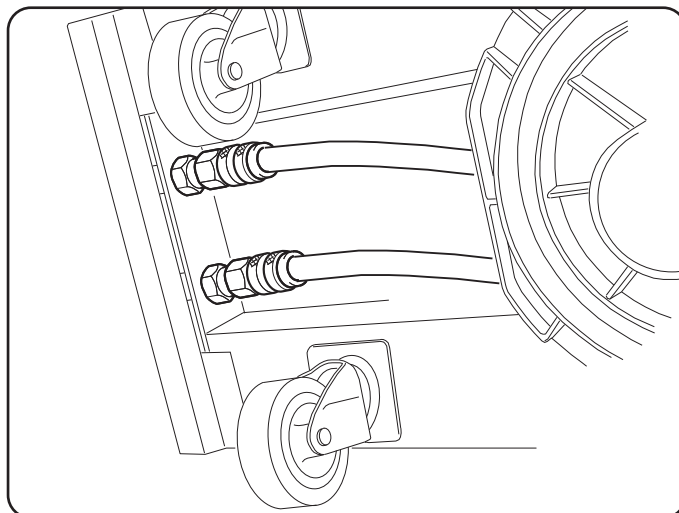

Fig. 6
- ◆ The coolant fluid hoses must be connected to the quick-fitting valves located below the base of the wire feeder (see fig. 6), by observing the colour coding on the trolley front side.